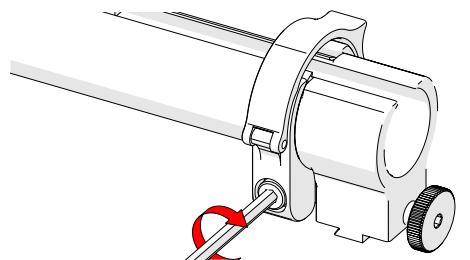

Fig. 66 - Tighten clamp screw
4. Tighten the clamp screw (Fig. 66).